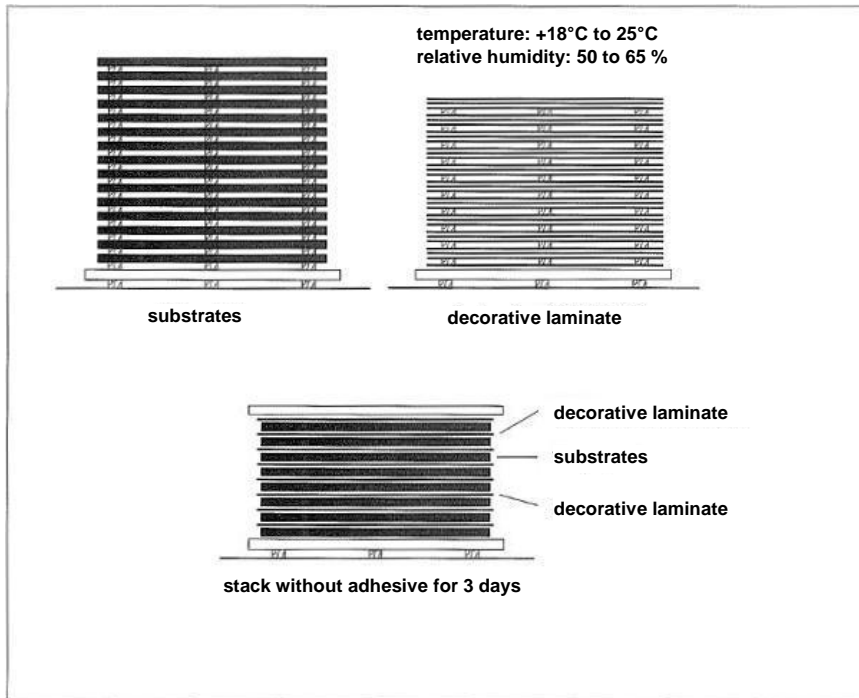

Figure 19: Conditioning
- a) provide sufficient air circulation around each sheet for at least ten days (figure 19)
- b) stack decorative laminates and substrates for at least three days in the same way as they will subsequently be bonded (relative humidity should be similar to the environment of the intended end-use application) (figure 19).